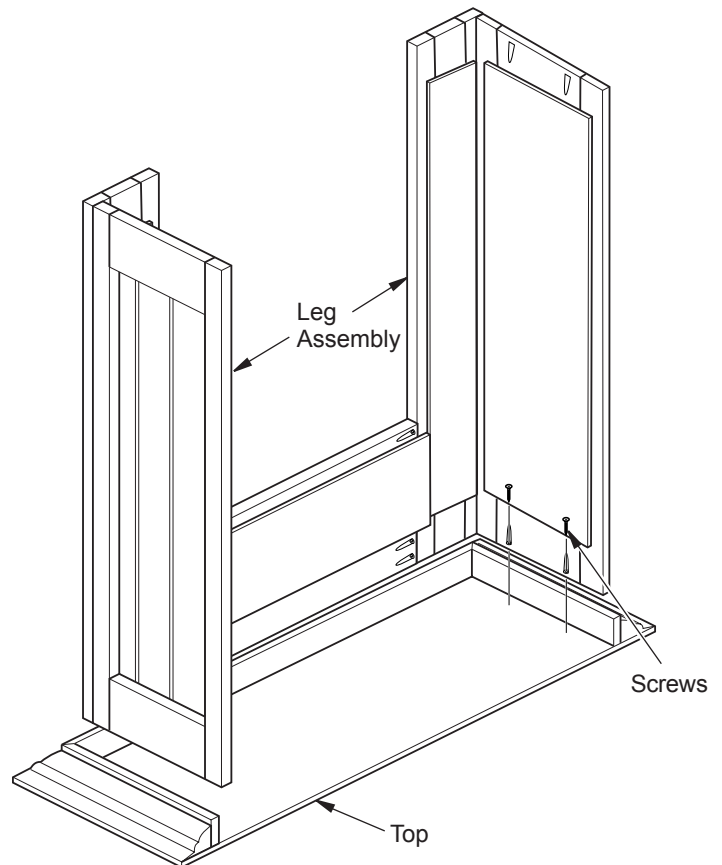

Figure 4 - Placing Mantel Assembly onto Mantel Top
4. Turn top and leg assembly upside down. Place leg assembly inside top (see Figure 4).
5. Make sure rear of leg assemblies are flush with back of top and mantel is centered left to right inside top. Square leg assemblies evenly with sides of mantel top, making certain gap between mantel top and leg assembly is the same from front to back. See Figure 4. Use screws provided in holes in sides to attach to top of mantel.